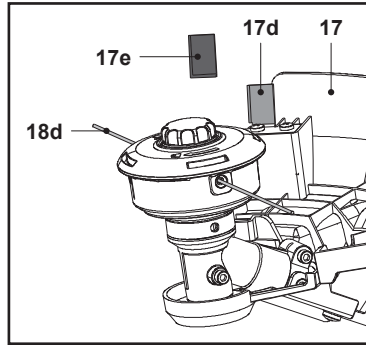

Fig. 16
The guard (17) protects the operator against thrown objects during operation. It is equipped with a knife (17d) that cuts the trimming lines (18d) (Fig. 16).